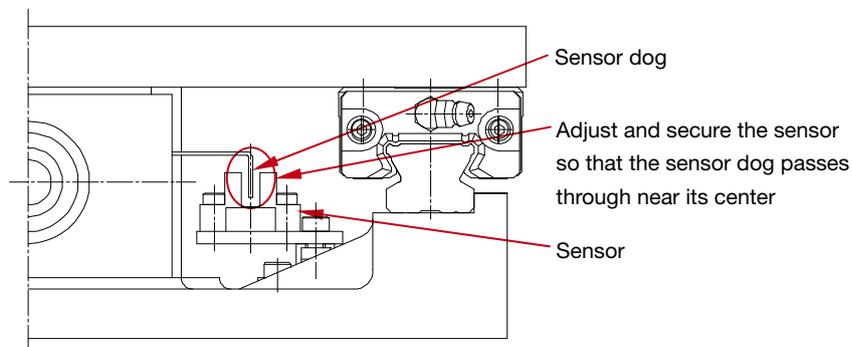

Fig. 4 Drawing for mounting the sensor
- When adjusting sensor position, secure it so that the sensor dog does not contact the sensor. See Fig. 4.